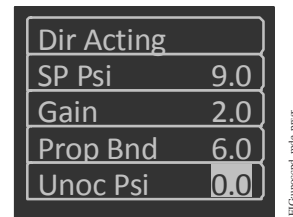

Figure 14: Changing the Unoccupied Mode Pressure
13. Change the **unoccupied mode pressure** as desired (Figure 14).